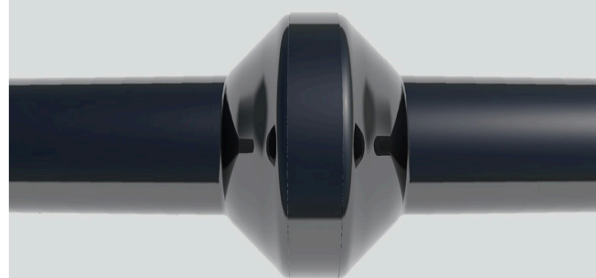

FIG 8
- Continue this process of back and forth around the flange until wrapping is complete (Fig 8).